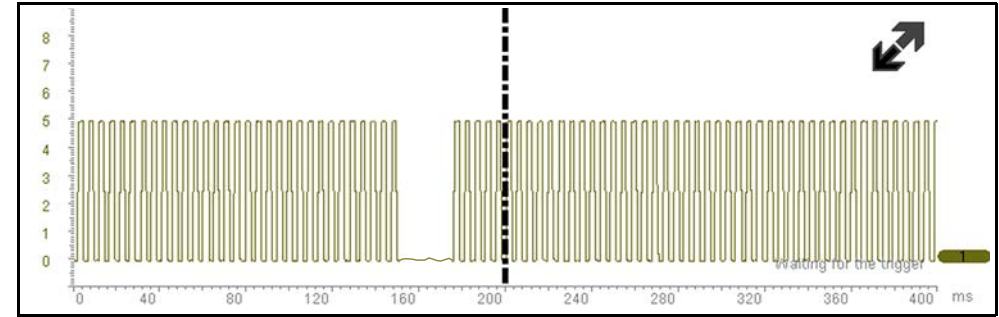

Figure 12-41
**3** - Zoom back in (this example is at 8X) to view more detail (*Figure 12-41*) in the area where the cursor was placed by the glitch.